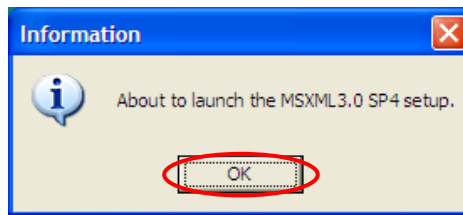

Figure 1-1-10 Installation Steps (10)
- Then an interface “About to launch the MSXML 3.0 SP4 setup” will appear, and then click “OK”, as shown in figure 1-1-10.